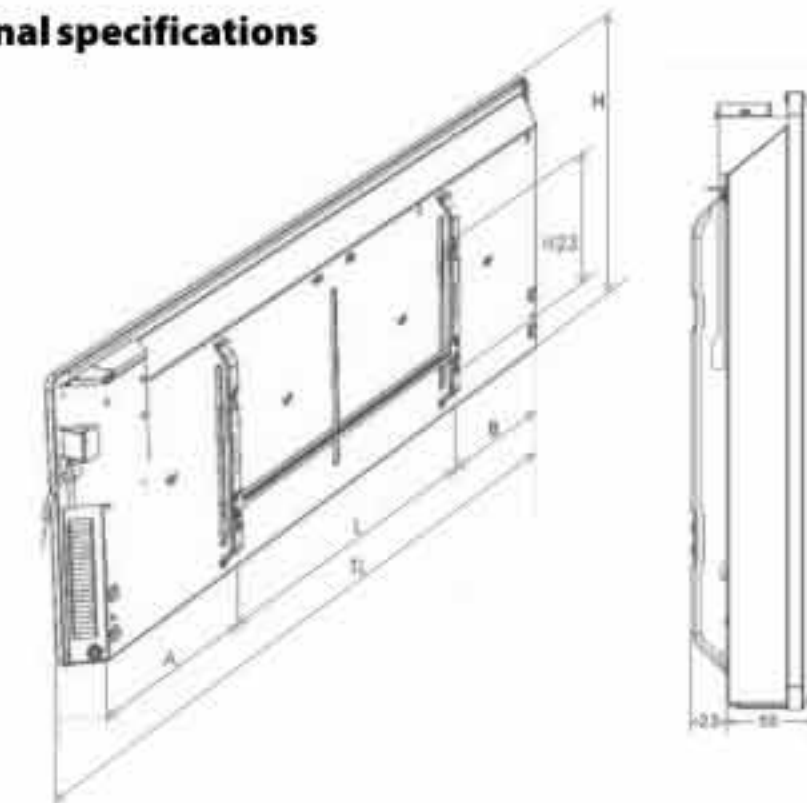

Fig. 2
Overall dimensions of the convector as per Fig.2 are given in Table 2.
3. In accordance with Fig. 2, 4 and table 2, determine the place of convactor's installation observing minimum distances from objects and minimum distance from the floor.